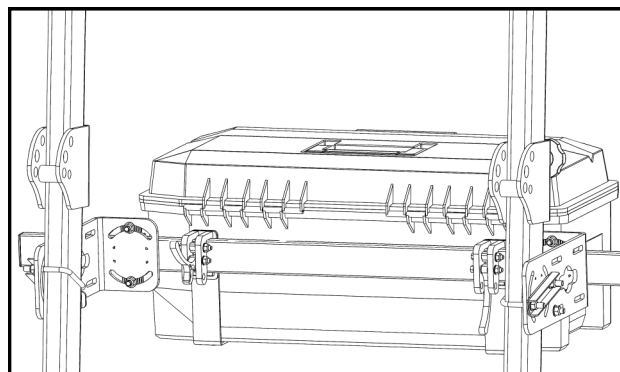

Fig. 1 (example of attaching a tool box)
1. Figure 1 shows an example of a toolbox installed on a *ROPS Mounted Tool Bar*. Installation onto a *UTV Mounted Tool Bar* is the same.